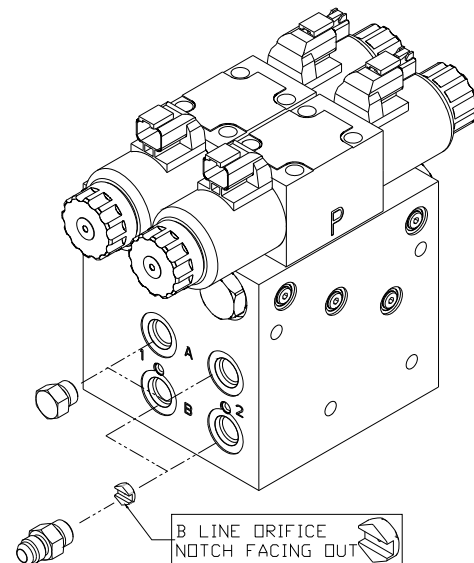

Figure 23: Valve Block Port Assembly
2. Install the orifices (**F01**) into the “B” ports **with the notch facing outward** as shown in **Figure 23**. An O-ring pick can be used to ease installing the orifices into their locations.